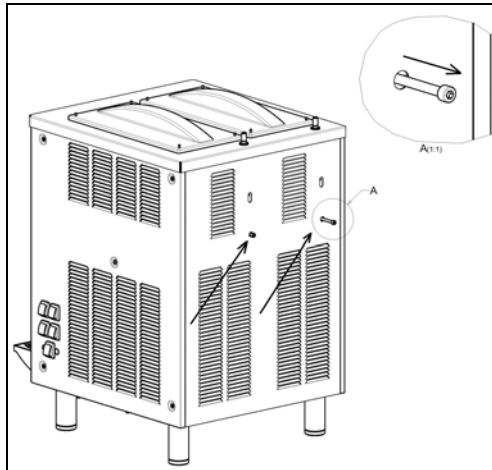

Fig. 4
**THE MP RANGE IS SUPPLIED WITH A LOCK SCREW PLACED ON THE REAR PANEL, REMOVE THIS SCREW BEFORE STARTING THE EQUIPMENT (FIG.4) AND KEEP IT CAREFULLY SO THAT IT CAN BE RE-ASSEMBLED IN CASE OF NEXT SHIPMENTS.**
- Dilute and mix the product in a separate container according to the manufacturer's instructions (see fig.4); never pour dry powder, crystals, or concentrate into a dry bowl.